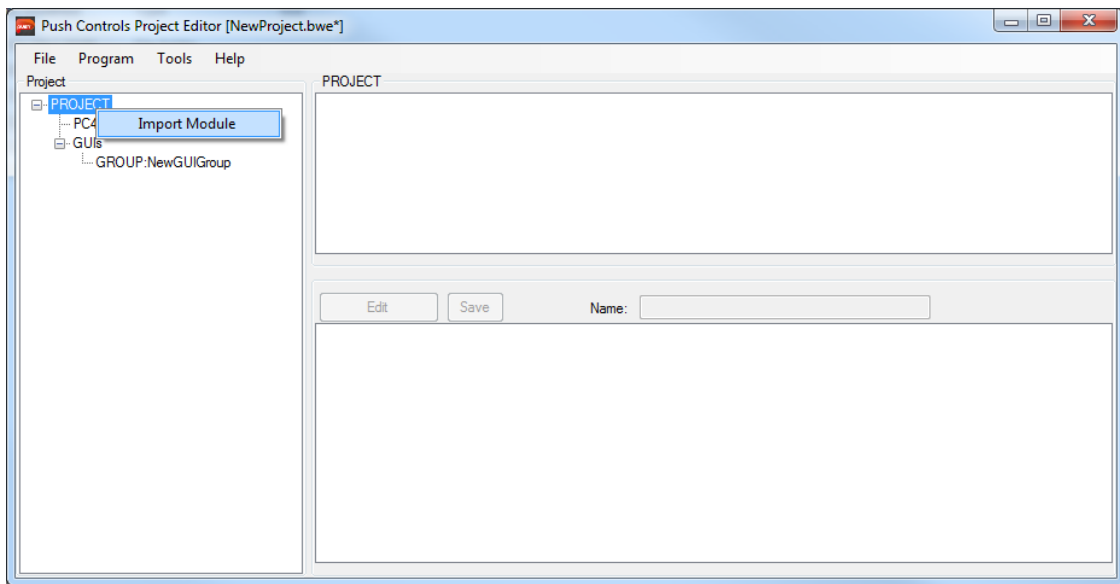

Figure 10 – Right click on PROJECT, inside the project tree, to import a module.
- Right click on 'PROJECT' at the top of the tree and select 'Import Module'. *Refer to Figure 10*